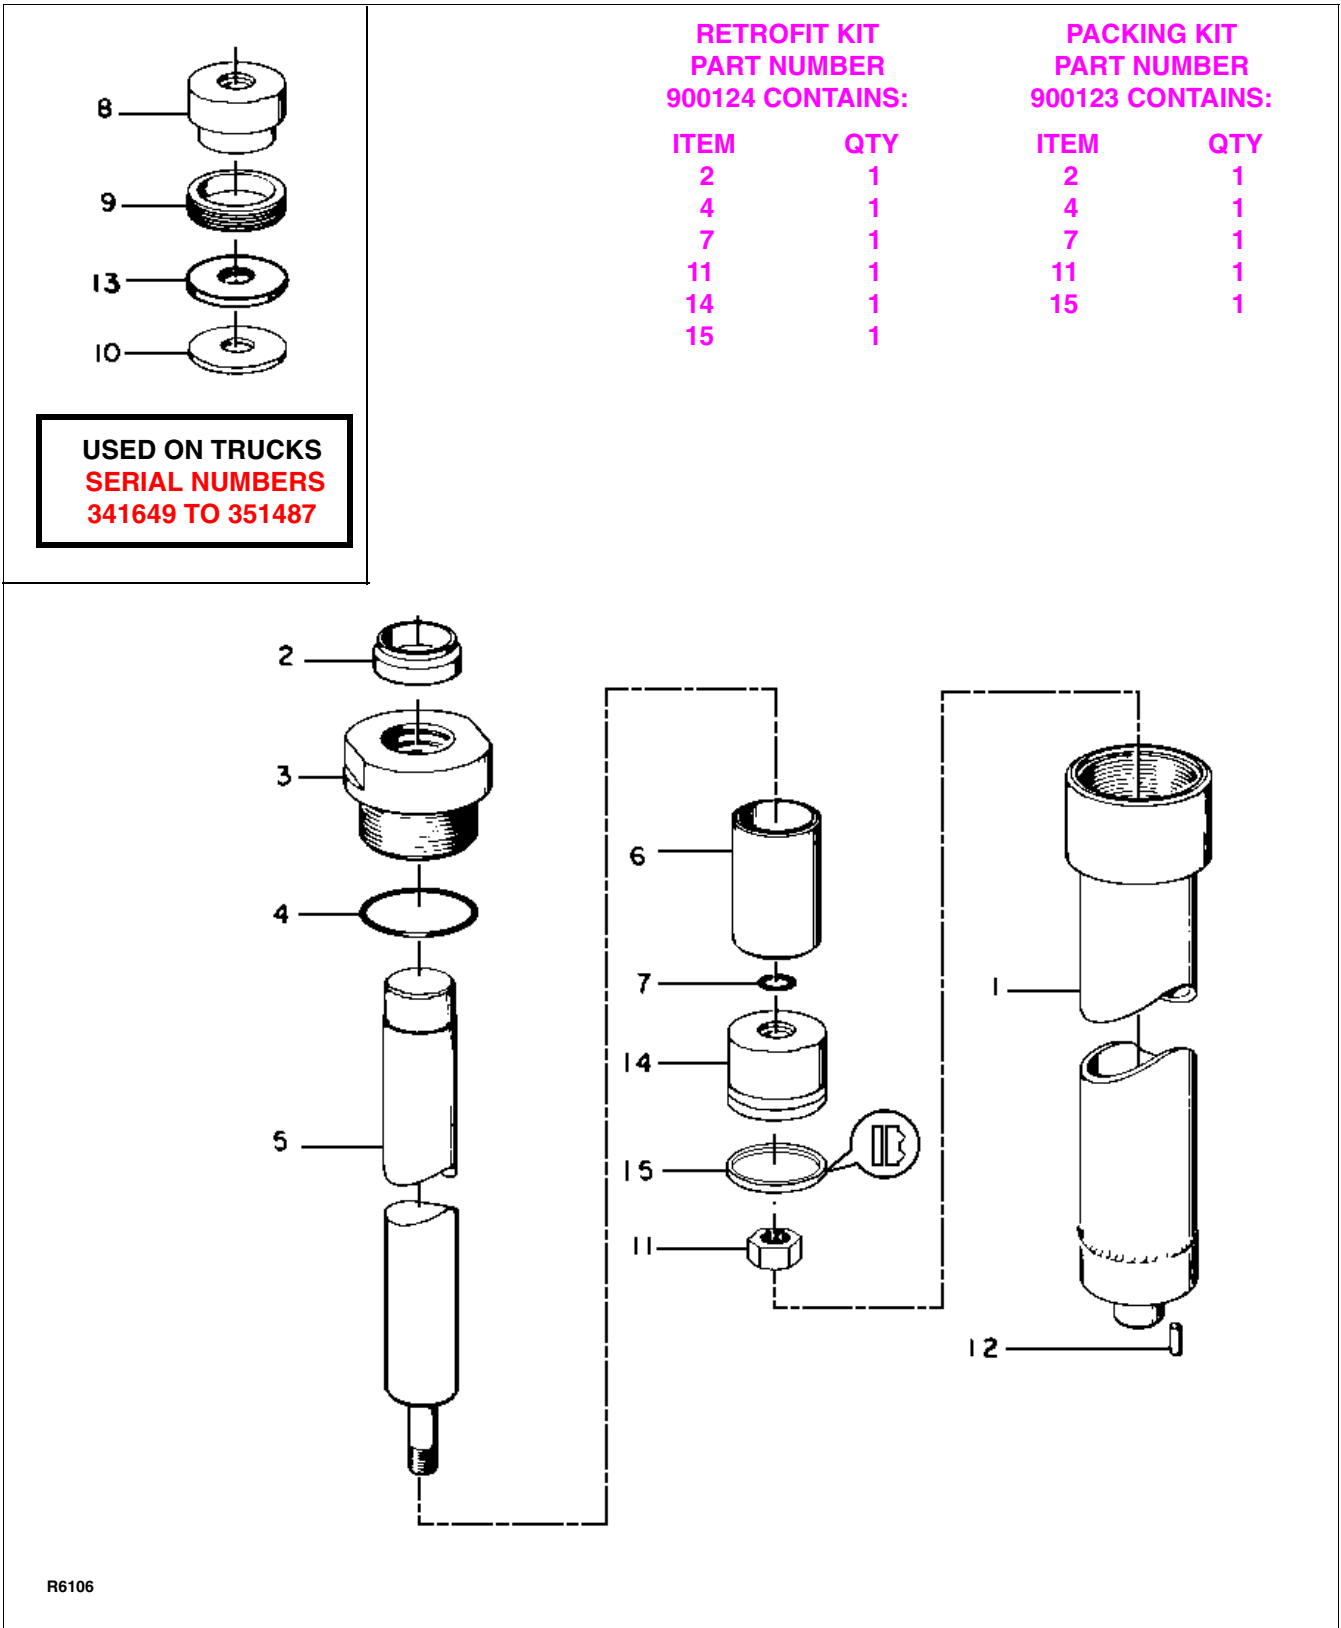

Figure 6-7 Lift Cylinder (Non-Tel) (Model 1518, 1524, 2018, 2024, 2524)
1. Secure the lift cylinder in the vise and remove the gland nut (3, figure 6-7), wiper ring (2), and O-ring (4).
2. Pull the cylinder ram (5) out of the lift cylinder.